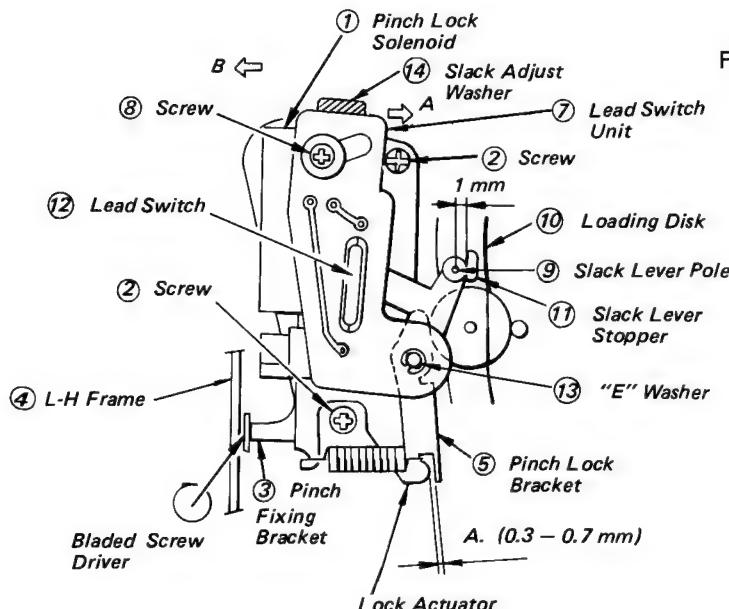

Fig. 5-85 Pinch Lock Assembly Checking, Pinch Roller Pressure Adjustment, and Lead Switch Unit Positioning
### 26-2. Correction (Fig. 5-85)
### 27-1. Checking (Fig. 5-85)
4. Make certain that the clearance A between the pinch lock bracket ⑤ and lock actuator is 0.3 to 0.7 mm (see Fig. 5-85).
5. Make certain that the lead switch ⑫ is turned on for auto-stopping when the slack lever is gradually moved to position the slack lever pole ⑨ at a distance of approximately 1 mm from the slack lever stopper on the loading disk (see Fig. 5-85).
## **27-2. Adjusting Pressure of the Pinch Roller (Fig. 5-85)**
## **27-3. Lead Switch Unit Positioning (Fig. 5-85)**
## **27-4. Adjusting Height of the Lead Switch (Fig. 5-85)**